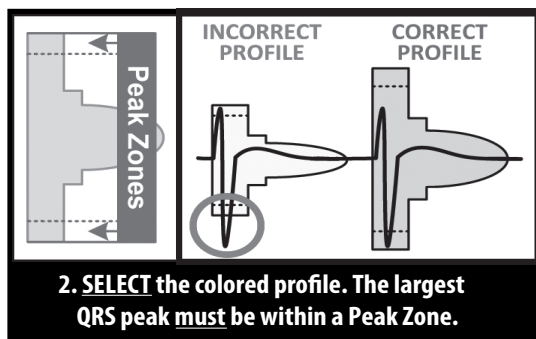

Figure 4. Selecting the Colored Profile
1. **Select** the colored profile from the Patient Screening Tool that best matches the amplitude of the QRS (Figure 4 Selecting the Colored Profile on page 20). For biphasic or notched signals, the larger peak should be used to determine the appropriate colored profile. The QRS peak must fall within the window bounded by the dotted line and the peak of the colored profile.